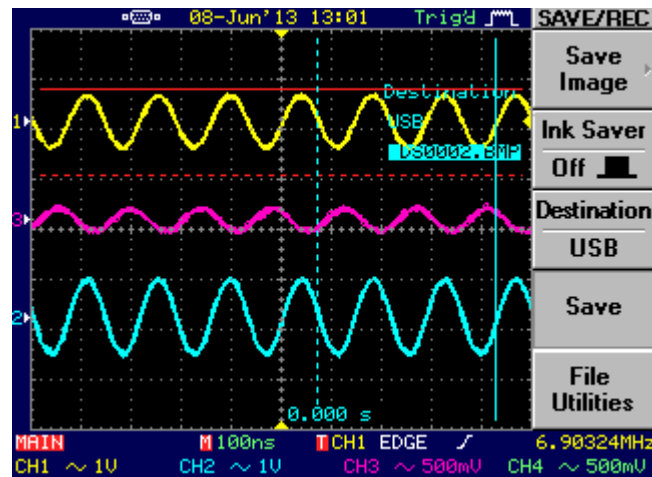

Figure 22 - Function generator output at 7Mhz.
2. Activate channels one, two and three on the oscilloscope and verify that a sine wave at the previously set frequency is displayed on all three channels (*As shown in figure 22. Note, the purple signal is the signal being passed through the filter. Its appearance should look very similar because the frequency of the signal from the function generator has not been tuned to the cutoff frequency of the filter*).